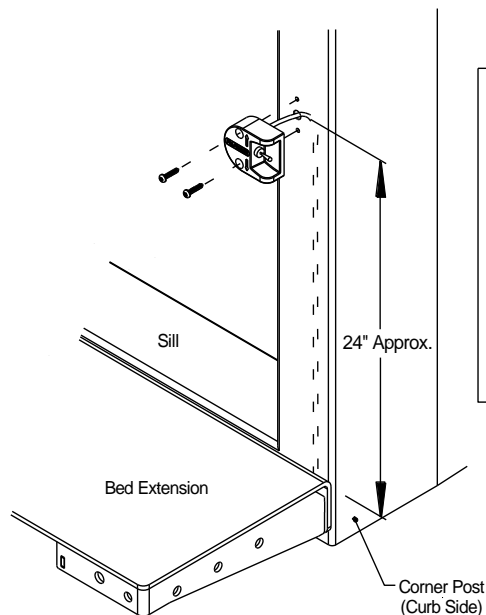

Fig.44
1. Mounting Hole Pattern: Locate area on rear curb side post of body where switch can be reached by the operator from ground and body floor. Position the holes approximately 24" up from vehicles floor, **Fig.44**. Drill two 5/32" (.156") holes spaced at 1-3/4" vertically, and one 1/2" hole, centered to the two 5/32" holes, for the switch cable harness, **Fig.45**.